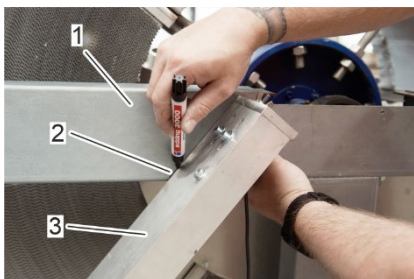

Fig. 26: Mark the position of the cleaning rail
4. Mark the position (Fig. 26/2) of the cleaning rail (Fig. 26/3) on the horizontal beam (Fig. 26/1) of the rotary heat exchanger frame with a clearly visible and waterproof pen if the airflow is separated vertically. In the case of horizontal airflow separation, the position of the cleaning rail must be marked on the vertical beam.